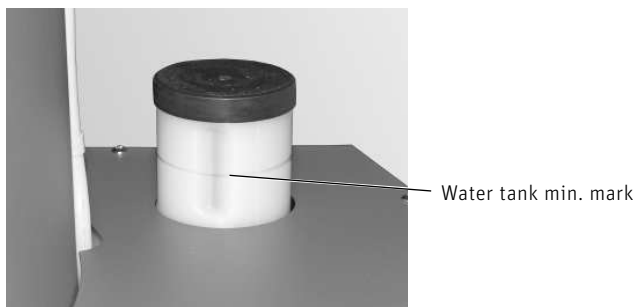

Fig. 60 Fill the water tank
- ▶ Remove the plug from the water tank and top up – Fig. 60.